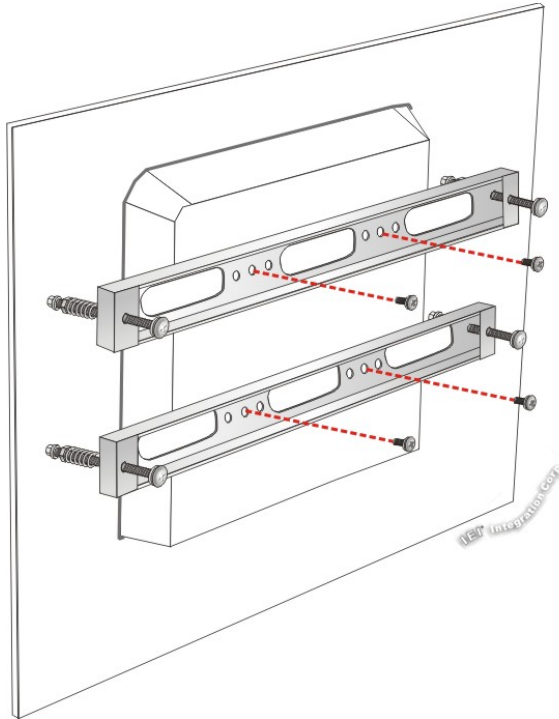

Figure 3-14: Securing Panel Mounting Brackets
Step 7: Secure the two panel mounting brackets to the rear of the panel PC by inserting the four retention screws into the VESA mounting holes and tightening them (**Figure 3-14**).